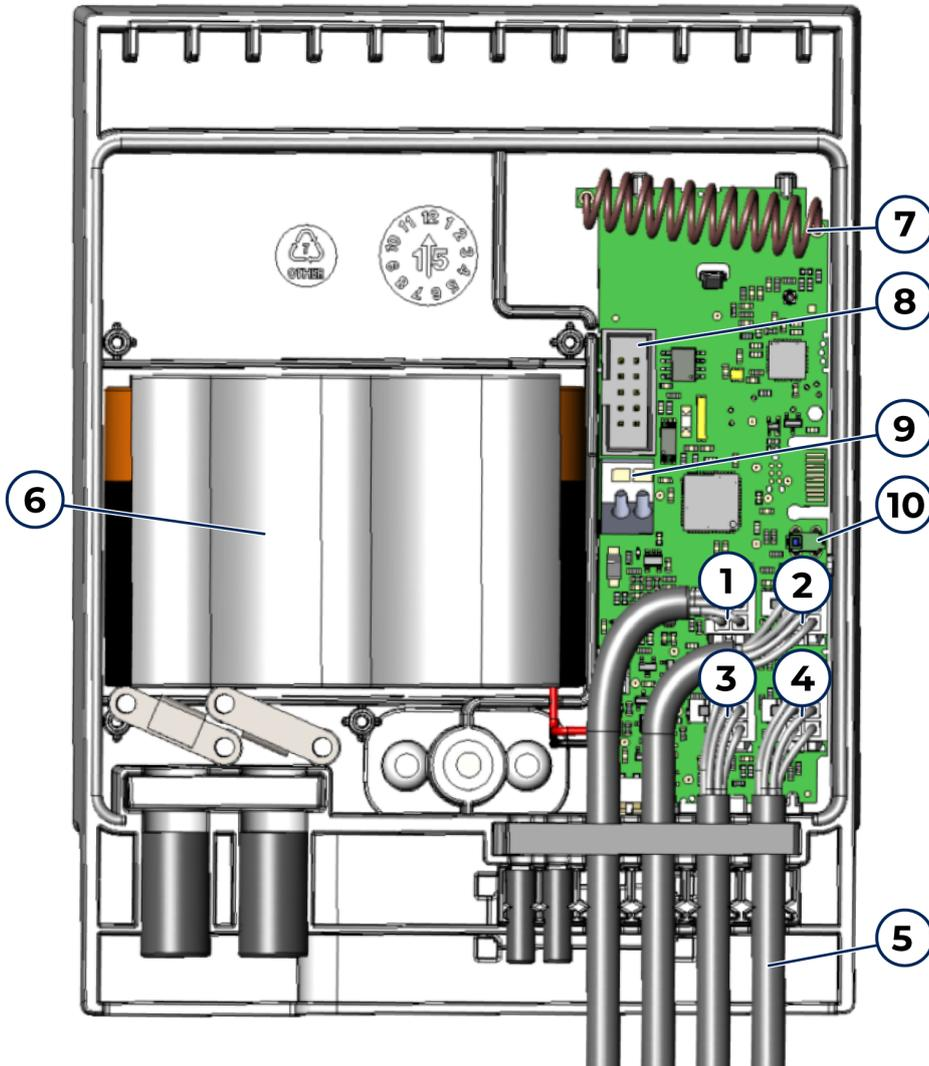

Figure 2: Installing cables to the meter unit EVH-RB
2. Install the cables in the order shown in Figure 2.